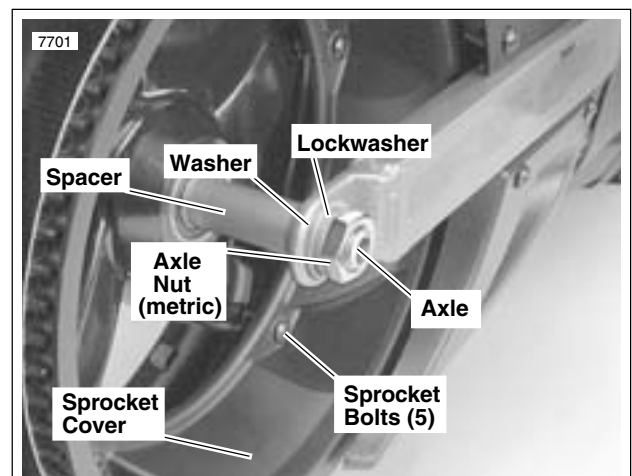

Figure 1-20. Rear Axle, Right Side
- a. See Figure 1-20. Hold right side spacer in place.